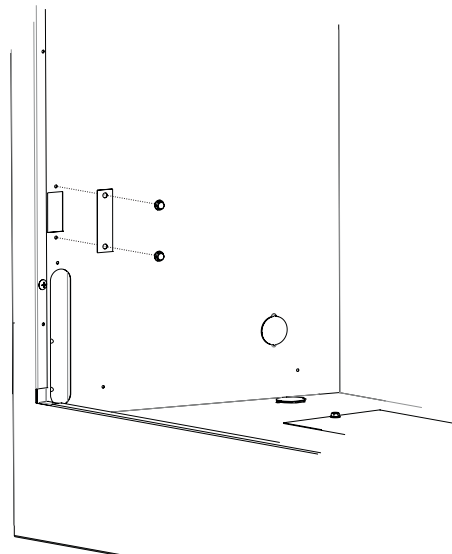
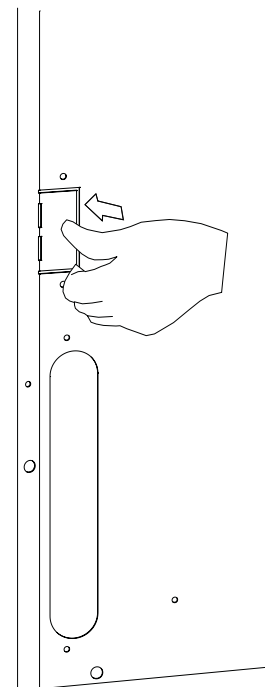

Figure 2a
Figure 2b
2. Remove the cover plate on the left side of the firebox and discard. **See Figure 2a.** Some units will not have a cover plate. For those units, bend the tab out of the way. **See Figure 2b.**